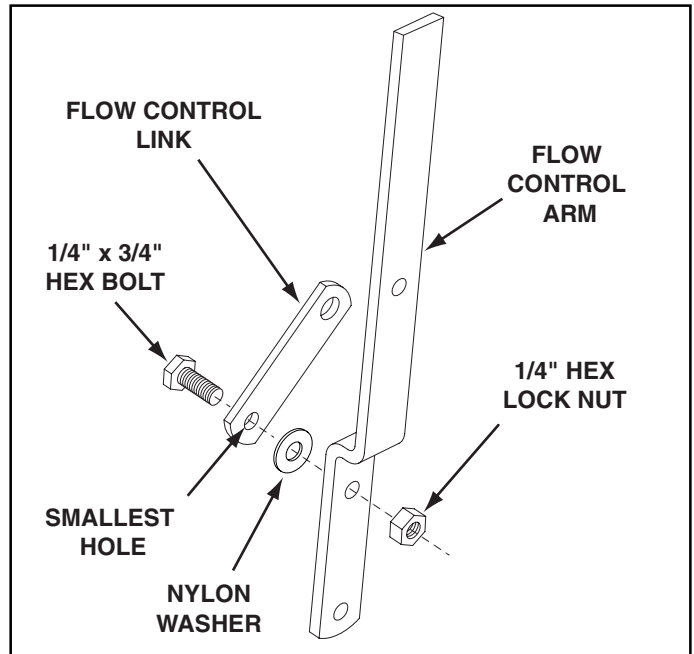

FIGURE 6
14. Assemble the flow control link (end with small hole) to the flow control arm using a 1/4" x 3/4" hex bolt, a nylon washer and a 1/4" hex lock nut. **Tighten carefully.** The flow control link should not be loose but should pivot with no more than slight resistance. See figure 6.